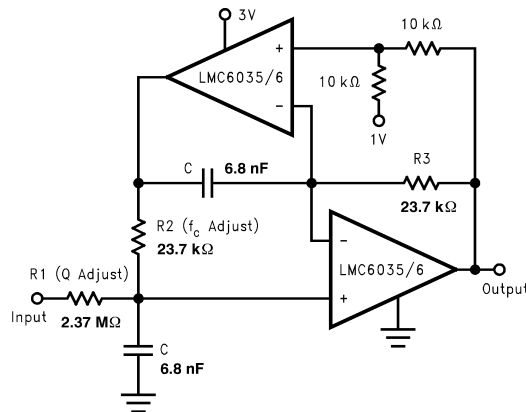

Figure 49. 2 Pole, 1kHz Active, Bandpass Filter
The dual amplifier bandpass (DABP) filter features the ability to independently adjust f_c and Q. In most other bandpass topologies, the f_c and Q adjustments interact with each other. The DABP filter also offers both low sensitivity to component values and high Qs. The following application of Figure 49, provides a 1kHz center frequency and a Q of 100.
1. First choose a center frequency (f_c). Figure 49 represents component values that were obtained from the following computation for a center frequency of 1kHz. $R2 = R3 = 1/(2 \pi f_c C)$ Given: $f_c = 1\text{kHz}$ and C (chosen) = **6.8nF** $R2 = R3 = 1/(2\pi \times 1\text{kHz} \times 6.8\text{nF}) = 23.4\text{k}\Omega$